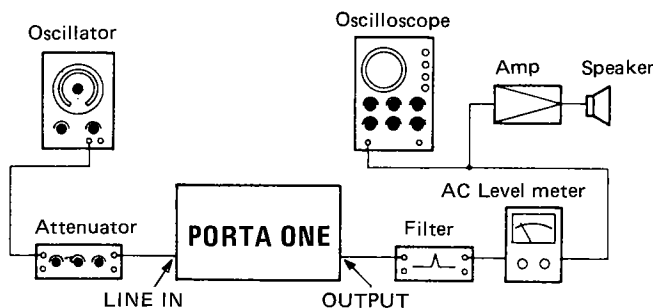

Fig. 10-5 Erasing ratio measurement
1. Connect test equipments as shown in Fig. 10-5 and adjust the controls and switches as mentioned under the item "10-7 OVERALL FREQUENCY RESPONSE".